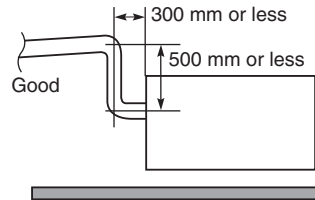

Fig. 1-100
- If it is necessary to increase the height of the drain pipe, the section directly after the connection port can be raised a maximum of 500 mm. Do not raise it any higher than 500 mm, as this could result in water leaks. (Fig. 1-100)